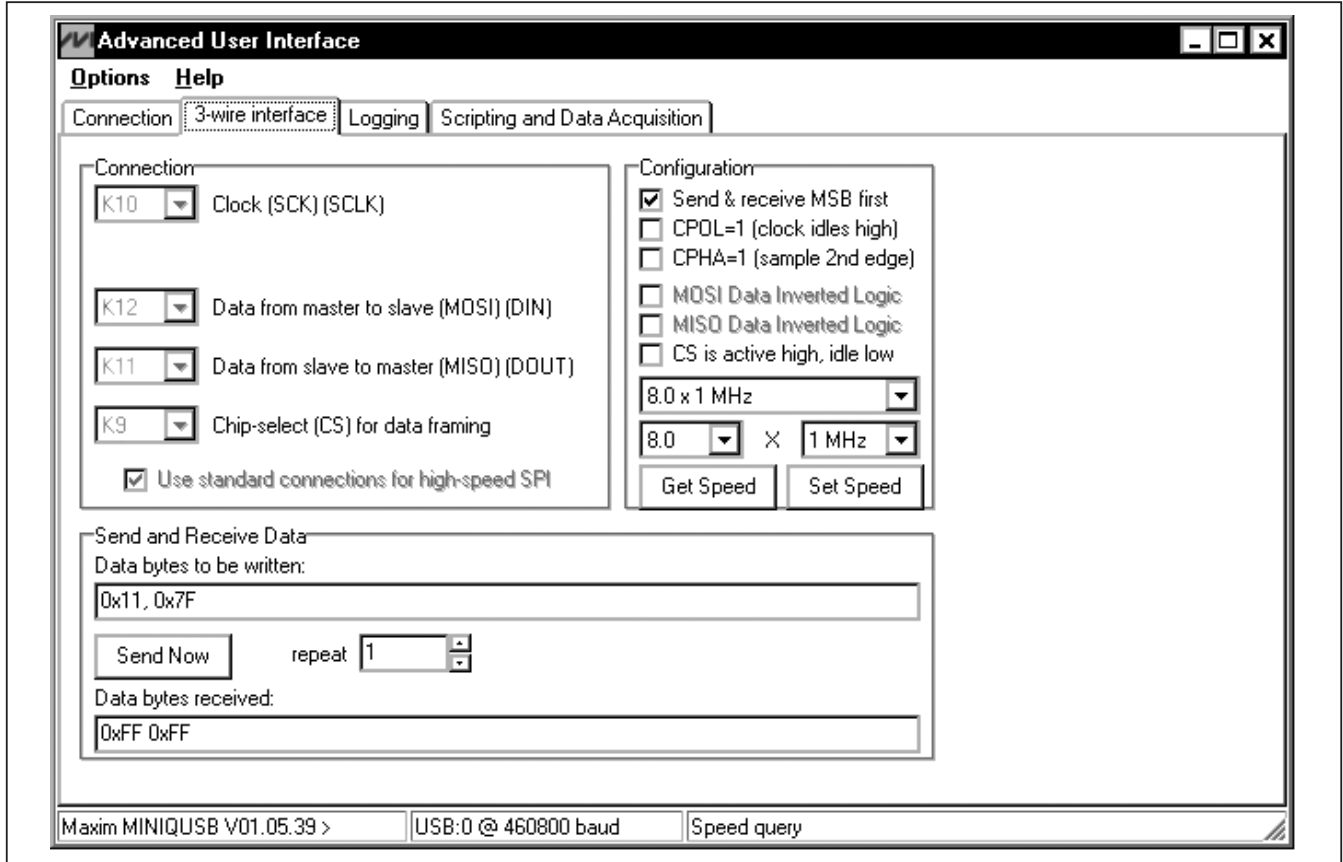

Figure 3. Simple Low-Level 3-Wire Interface
the **3-Wire Interface** (Figure 3) utility from the main program's **Options | Advanced Users Interface** menu bar. A window is displayed that allows SPI send/receive data operations.
On the **3-wire interface** tab, the **Connection** group box defines the hardware connections of the interface. For the EV kit, **K10** is selected from the **Clock (SCK) (SCLK)** drop-down list, **K12** from the **Data from master to slave (MOSI) (DIN)** drop-down list, **K11** from the **Data from slave to master (MISO) (DOOUT)** drop-down list, **K9** from the **Chip-select (CS) for data framing** drop-down list, and the **Use standard connections for high-speed SPI** checkbox is checked (see Figure 3).
The **Configuration** group box allows the user to configure the logic level and data rate. For the MAX5393 EV kit, check the **Send & Receive MSB first** checkbox and verify that the **CPOL=1 (clock idle high)** and **CPHA=1 (sample 2nd edge)** checkboxes are unchecked (see Figure 3).
Note: The SPI dialog boxes accept numeric data in hexadecimal format. Hexadecimal numbers must be prefixed by \$ or 0x. Figure 3 shows a simple SPI write-byte operation using the included 3-wire interface diagnostics tool. In this example, the software is sending command 0x11 (write to potentiometers A and B) and data 0x7F. The data sequence sets potentiometer A and B wiper positions to 127.